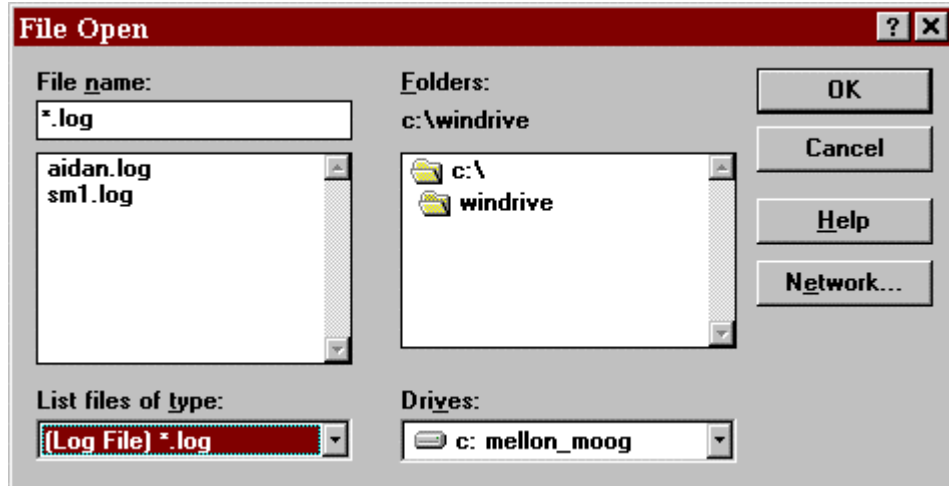

FIGURE 4.27 File Open Dialog Box
- The *File Open* dialog box appears (FIGURE 4.27). In the dialog box complete the following: